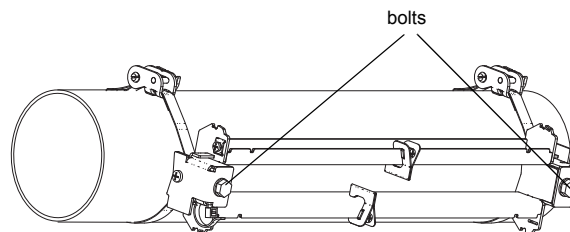

Fig. 9.44: Rail on the pipe
- Put the rail on the tension strap clamps (see Fig. 9.44).